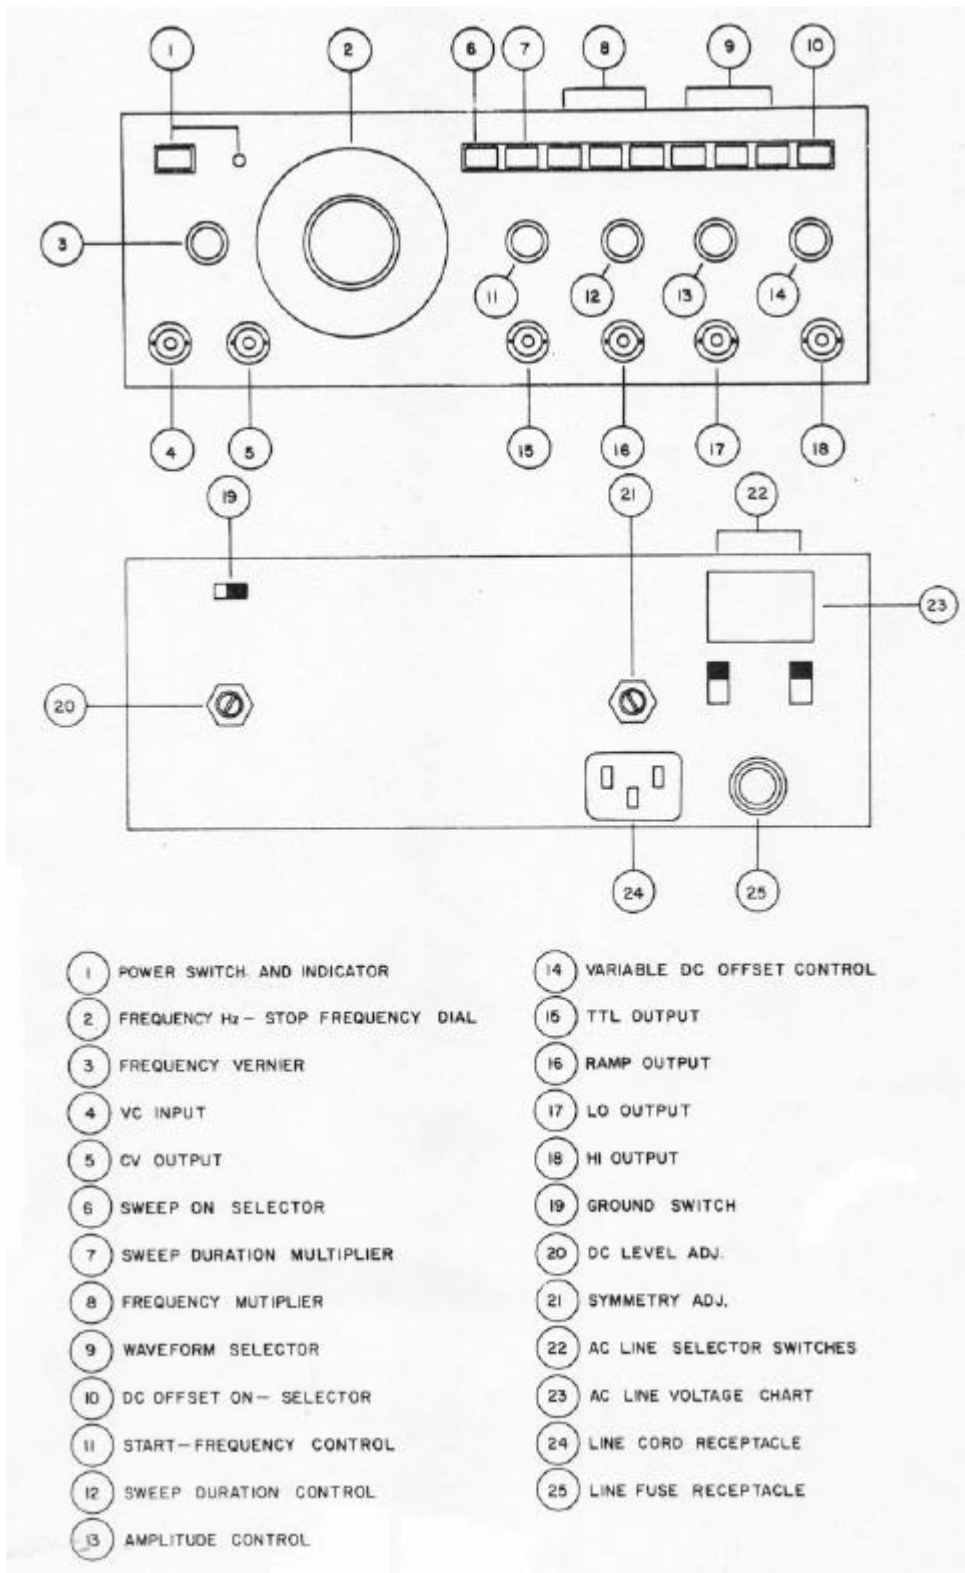

Figure 3. Operating Controls and Connectors
**2.2 OPERATING CONTROLS AND CONNECTORS (see Figure 3)****2.2.1 Front Panel****2.2.1.1 Power:**